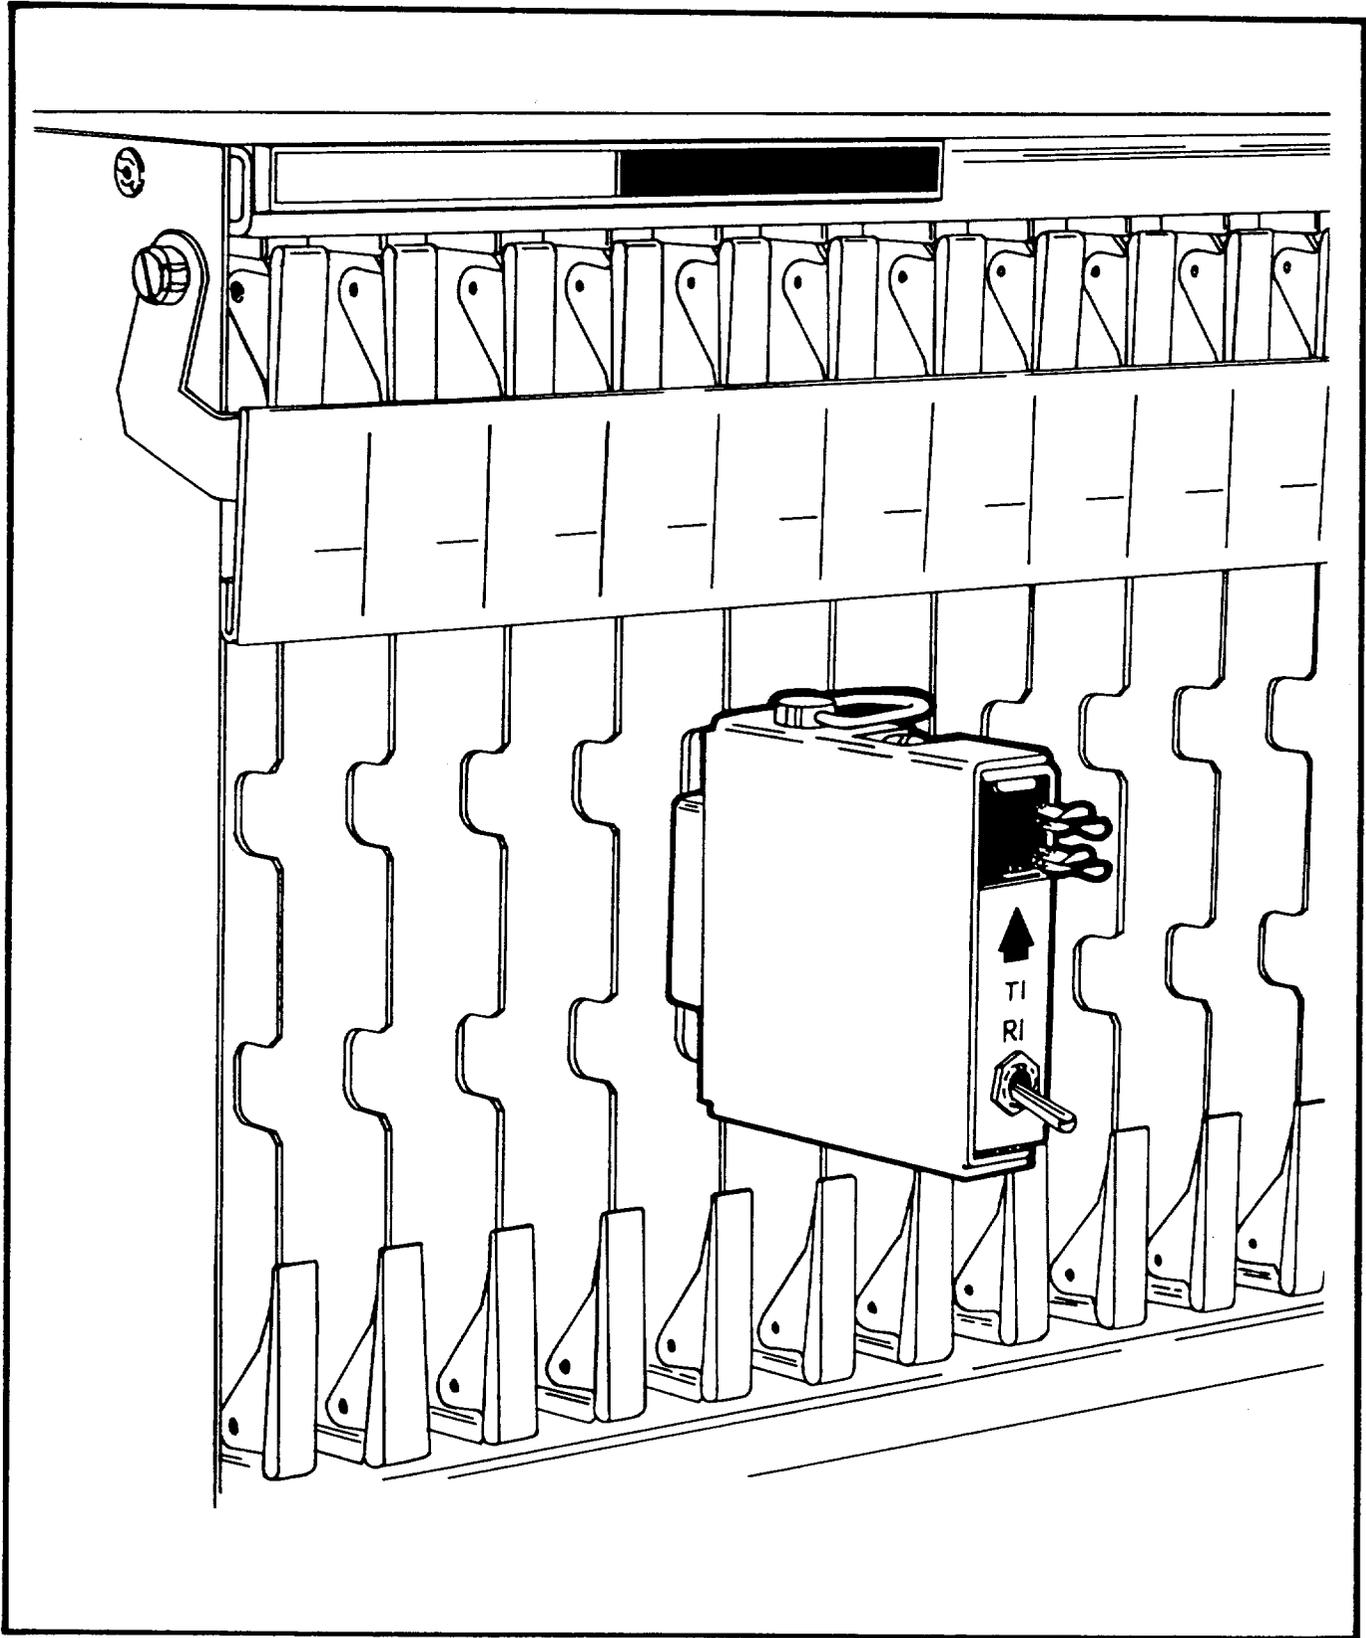

Figure 6 M-911-04 Test Adapter on Circuit Card
3.11 A Test Adapter, shown in Figure 6, is available to allow connecting a butt-in test telephone to the contacts (J2) at the front edge of the M-911 circuit card. The Tip and Ring leads from both the pay-station repeater and the linefinder are available at this connector and are brought out to Strowger-type contacts at the front of the